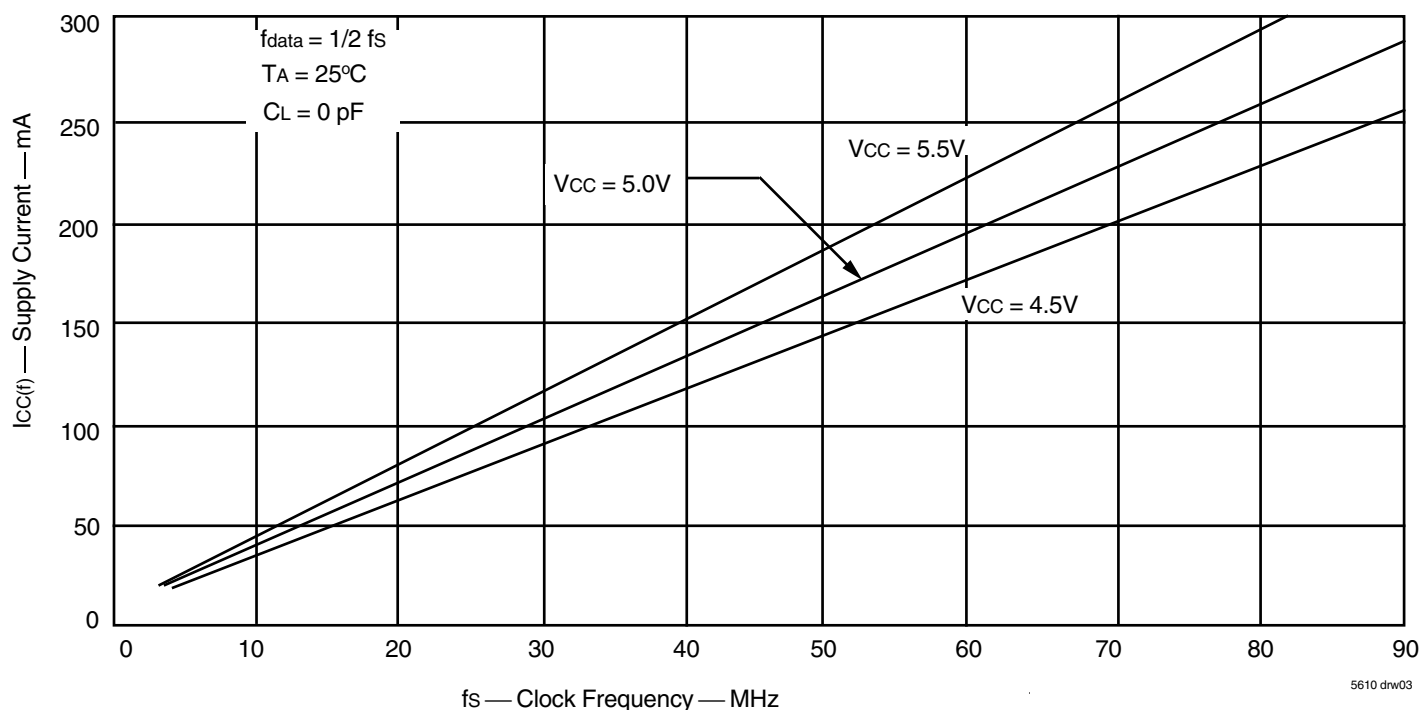

Figure 1. Typical Characteristics: Supply Current (I_{CC}) vs. Clock Frequency (f_s)
- For additional I_{CC} information, see Figure 1, *Typical Characteristics: Supply Current (I_{CC}) vs. Clock Frequency (fs)*.
The $I_{CC(f)}$ current for the graph in Figure 1 was taken while simultaneously reading and writing a FIFO on the IDT723663/723673 with CLKA and CLKB set to f_s . All data inputs and data outputs change state during each clock cycle to consume the highest supply current. Data outputs were disconnected to normalize the graph to a zero capacitance load. Once the capacitance load per data-output channel and the number of IDT723663/723673 inputs driven by TTL HIGH levels are known, the power dissipation can be calculated with the equation below.
With $I_{CC(f)}$ taken from Figure 1, the maximum power dissipation (PT) of these FIFOs may be calculated by: